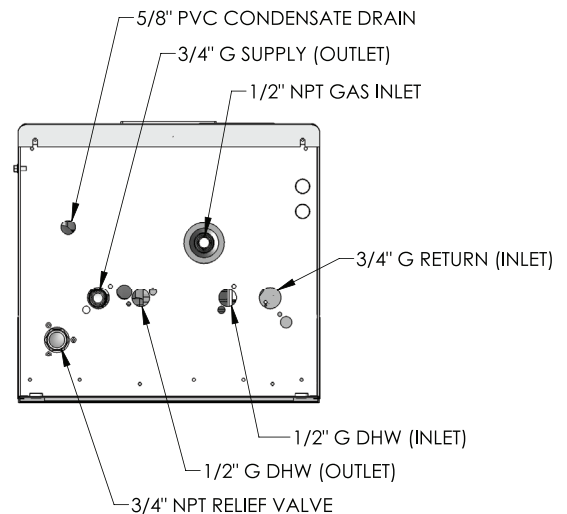

Figure 4.2: Water and Condensate Connection Points
1. *Pressure/Temperature Gauge:* A combination pressure/temperature gauge is provided with each Peak boiler to be mounted in the piping from the boiler supply to the system as shown in Figures 4.2 & 4.3. Most local codes require this gauge.
- Pressure Relief Valve:** The boiler pressure relief valve is shipped separately for field installation. The valve is to be installed as shown in Figures 4.2 or 4.3. Pipe the discharge of the relief valve to within 12" of the floor and close to a floor drain. Provide piping that is the same size or larger than the relief valve outlet.